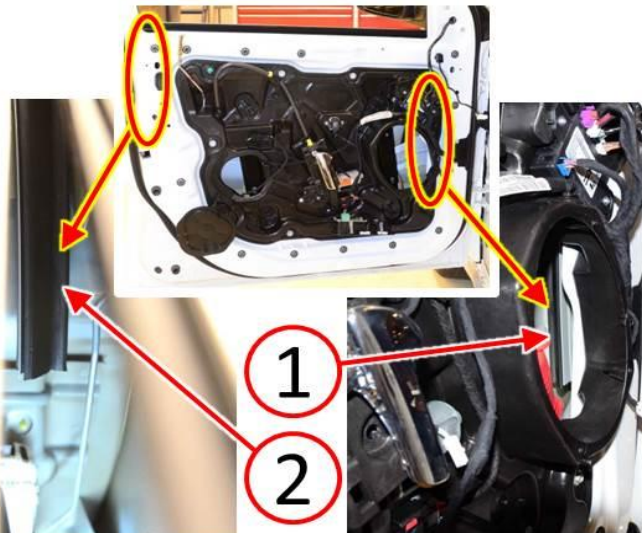

Fig. 10 Ensure Door Glass Run Seal Is Seated In Channel
8. Ensure the door glass run seal front leg (1) and rear leg (2) inside the door are fully seated into the door glass run channel (Fig. 10).